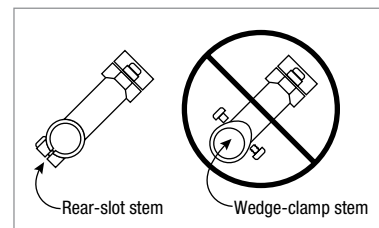

Figure 1
**▲ WARNING:** Only use rear slot-style clamping stems on carbon steerers. Wedge-clamp stems must not be used and could result in failure (Fig. 1).